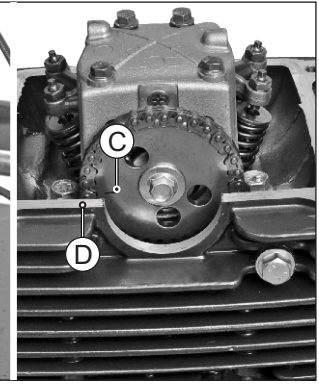

Fig. 3.192B
- At this position, ensure that the mark (C) on sprocket cam shaft matches with the surface edge of head complete cylinder (D). (Fig. 3.192B)